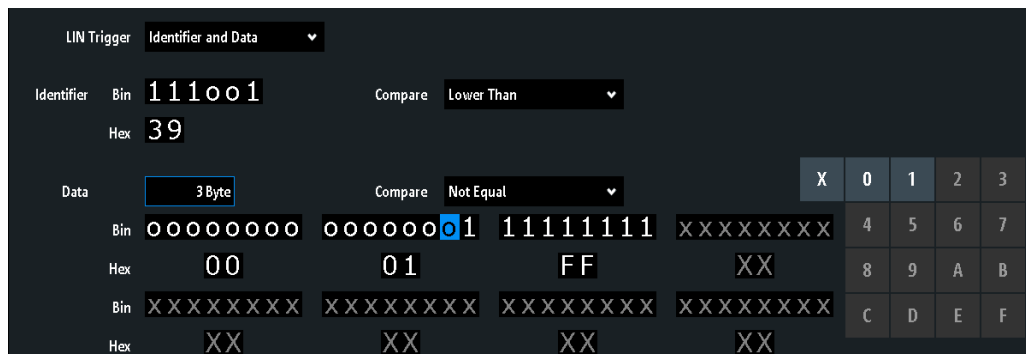

Figure 12-32: Trigger setup to trigger on identifier and data patterns
- "Identifier and Data" Triggers on a combination of identifier and data condition. The instrument triggers at the end of the last byte of the specified data pattern. An example is shown in Figure 12-32. See "Identifier condition" on page 241 and "Data condition" on page 242.